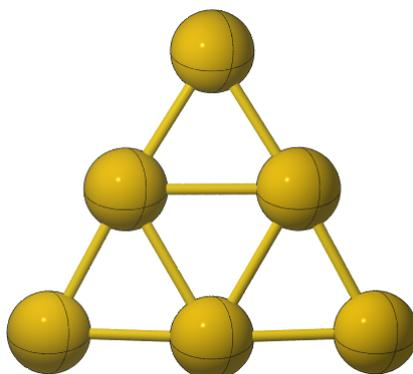

Figure 5.2.2: The global minimum of  $\text{Au}_6$ .
Step 4: After the optimization, you can check the structures. For my run, the first structure (mol-LM/0.xyz) happens to be global minimum, which is shown in Figure 5.2.2.